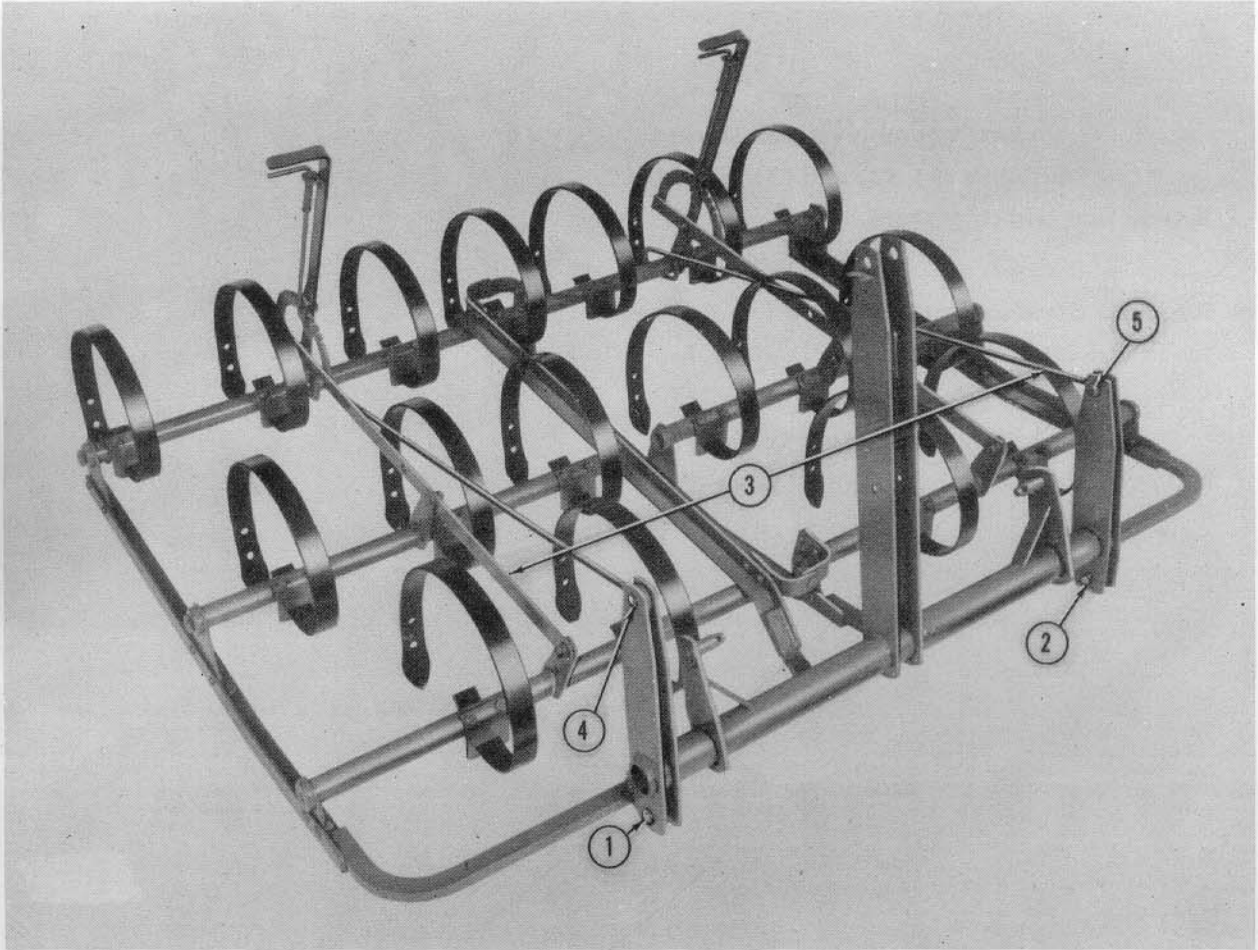

Figure 9
5. Attach the drawbar assembly to each section hitch plate at points (1) and (2), Figure 9, with pins and cotter pins.
6. Fasten front ends of lift rods (3), Figure 9, at points (4) and (5) with bolts and bushing provided.